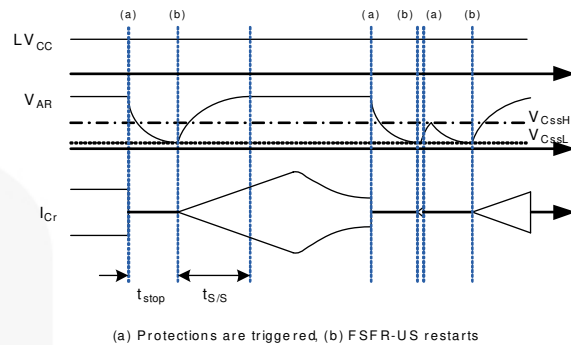

**Figure 20. Internal Block of AR Pin**
**4. Self Auto-Restart:** The FSFR-US series can restart automatically even though any built-in protections are triggered with external supply voltage. As can be seen in Figure 20 and Figure 21, once any protections are triggered, M1 switch turns on and V-I converter is disabled.  $C_{SS}$  starts to be discharged until  $V_{C_{SS}}$  across  $C_{SS}$  drops to  $V_{C_{SSL}}$ . Then, all protections are reset, M1 turns off, and V-I converter resumes at the same time. The FSFR-US starts switching again with soft-start. If the protections occur while  $V_{C_{SS}}$  is under  $V_{C_{SSL}}$  and  $V_{C_{SSH}}$  level, the switching is terminated immediately,  $V_{C_{SS}}$  continues to increase until reaching  $V_{C_{SSH}}$ , then  $C_{SS}$  is discharged by M1.